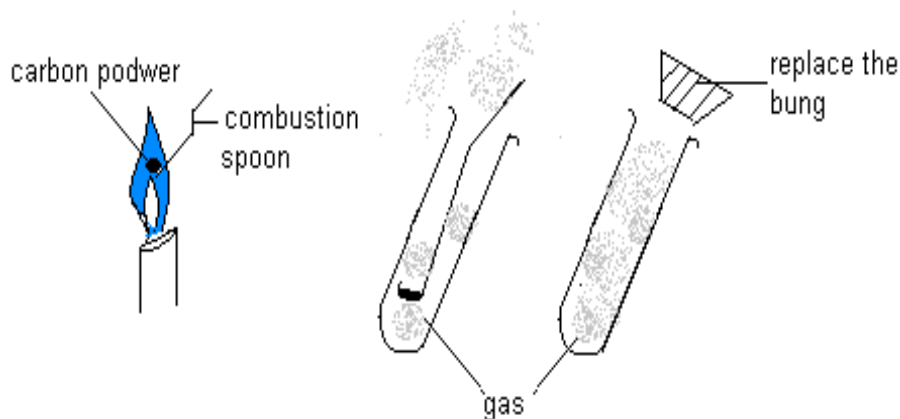

Figure 5.3: Burning powdered carbon in air
1. Heat some powdered carbon on a deflagrating spoon in a hot Bunsen flame as shown in Figure 5.3. What do you observe?